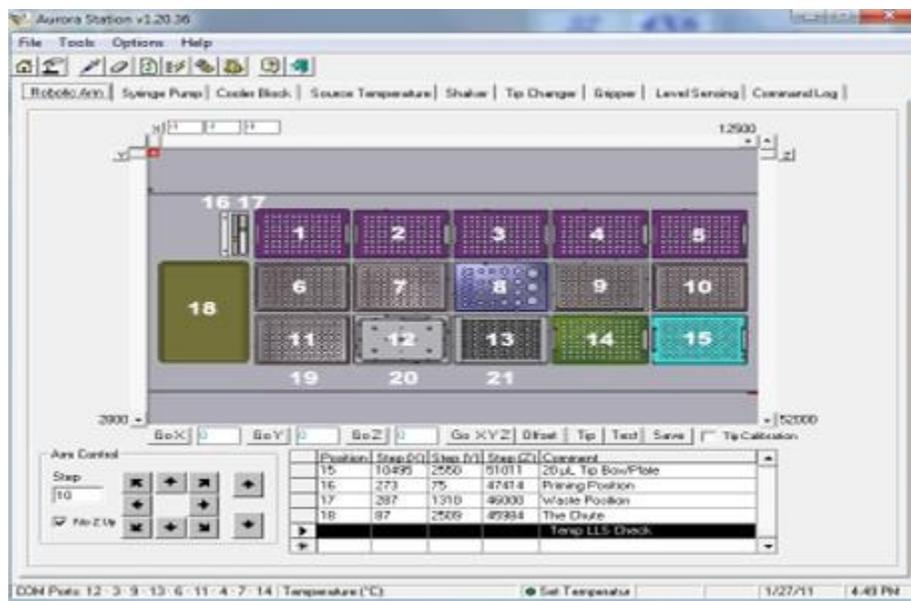

Figure 9-69 New Row Entry for Coordinates
1. Open Aurora Station and select a new blank or empty row for use in the coordinates table. Under the position field, type in a position number and a comment (this can be any number or name that don't coincide with the default teach positions). Leave all other fields empty and highlight the new row entry (*Figure 9-69 New Row Entry for Coordinates*).